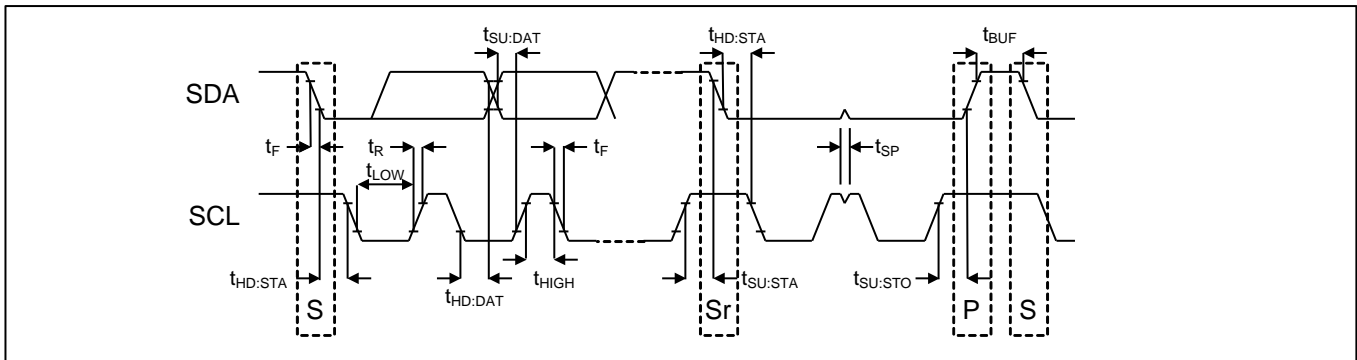

**Figure 27 - SPI Master Interface Timing**
- Note 3:** See timing diagram in Figure 27.